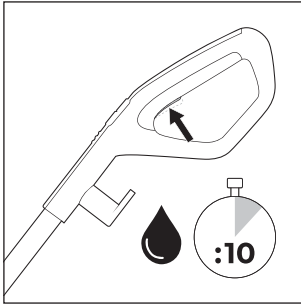
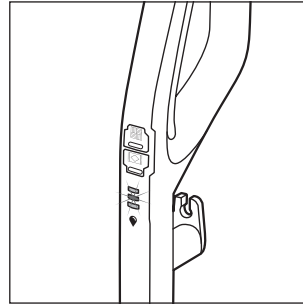

Fig. 18
Fig. 19
- ◆ Before each use, press and hold the cleaning solution switch  **15** for about 10 seconds to add cleaning solution to the rotary brush **6** so that it is ready for use (see fig. 18). The cleaning solution display  **12** flashes alternately blue when the cleaning solution switch  **15** is held down (see fig. 19).